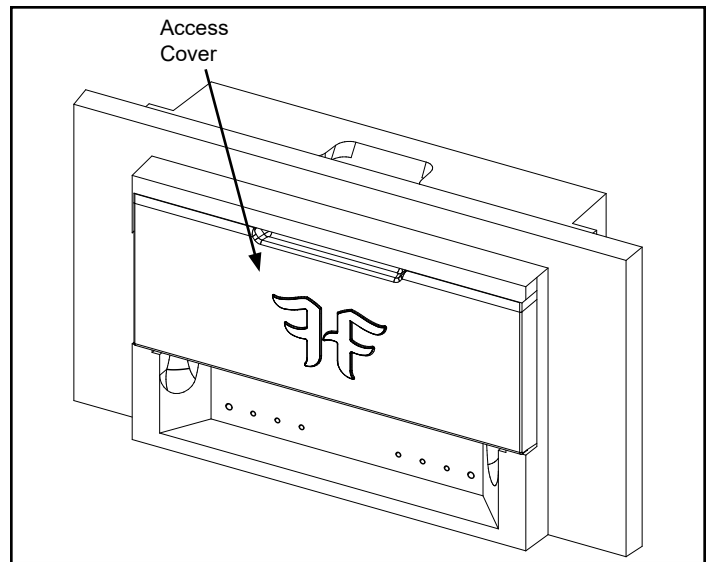

**Figure 5.10 - Remove access cover.**
1. Remove the access cover by gently lifting up and pulling out from the bottom edge, Figure 5.10.